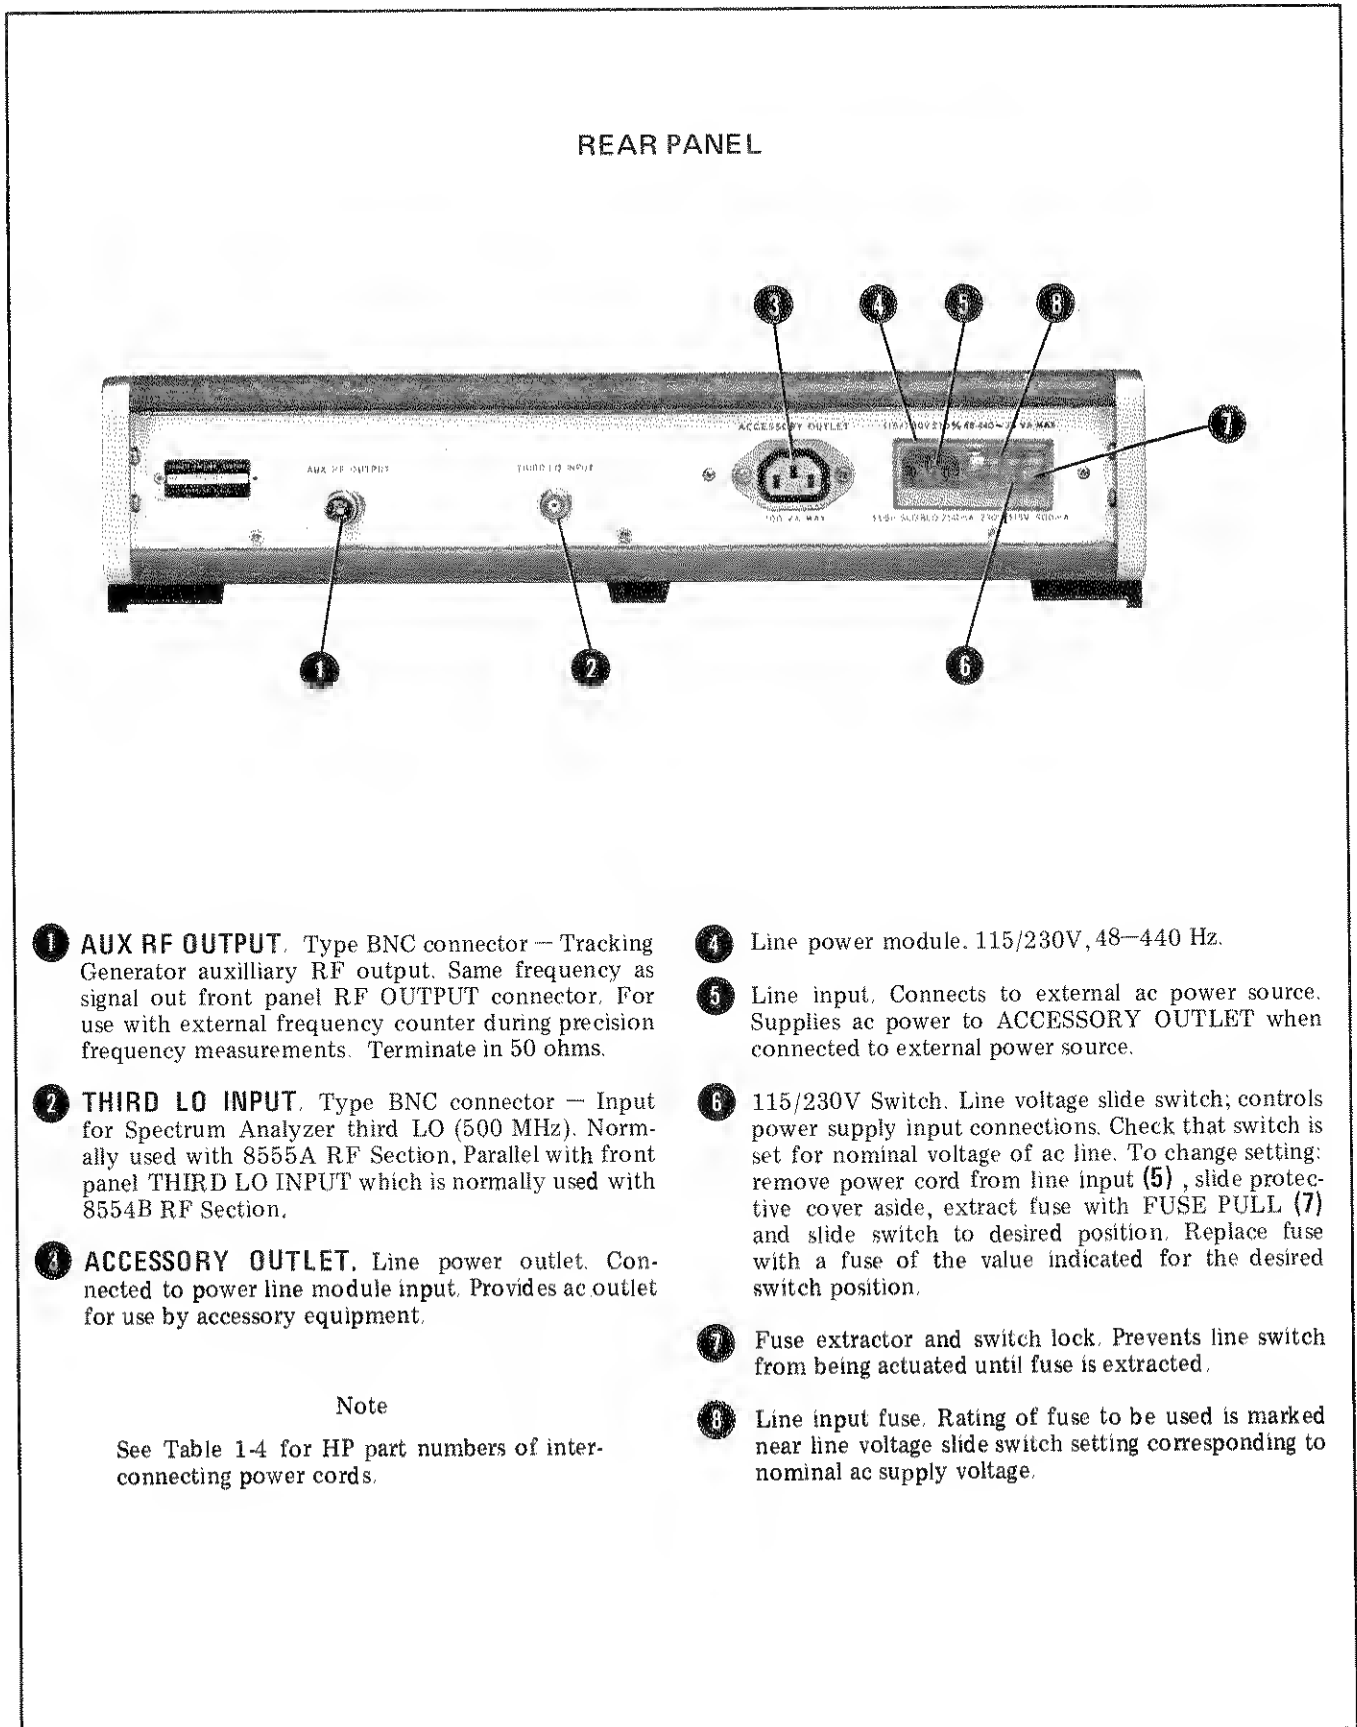

Figure 3-2. Model 8444A Tracking Generator Rear Panel Controls and Connectors
1. Check that the 115/230V switch is set to correspond with the available line voltage. Refer to Figure 3-2, steps 4 through 8, for switch and fuse information.
1. Check that the 115/230 switch is set to correspond with the available line voltage. Refer to Figure 3-2, steps 4 through 8, for switch and fuse information.